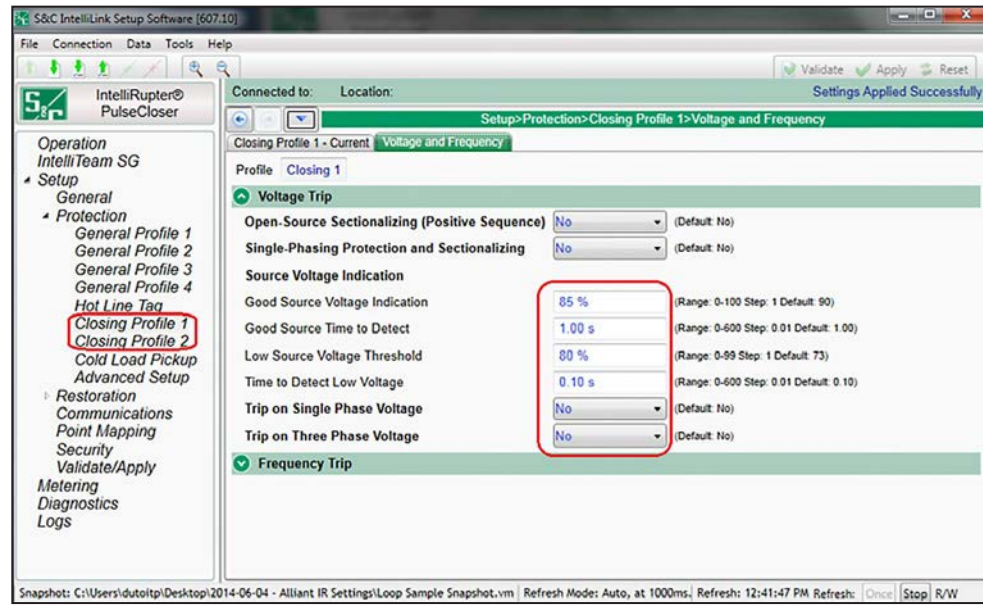

Figure 85. The Setup>Protection>Closing Profile 1>Voltage and Frequency>Voltage Trip screen.
STEP 13. Match the **Voltage Indication** settings in the **General Profile** mode for both **Closing Profile 1** and **Closing Profile 2** modes. See Figure 85 on page 170.